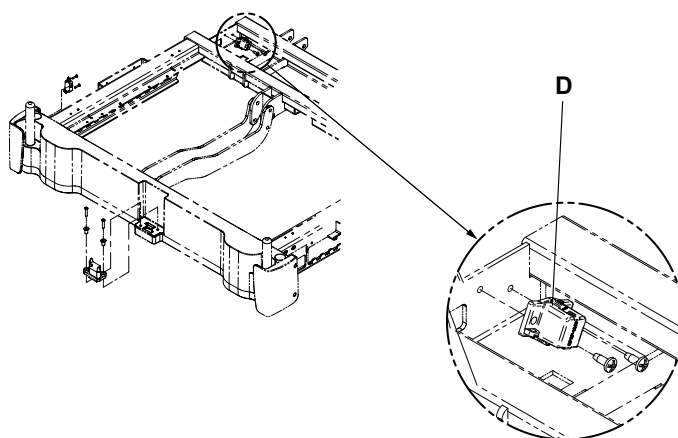

Figure 73 – Angle sensor
5. Using a #2 Phillips short screwdriver, remove the two screws that secure the angle sensor (D) to the foot frame (Figure 73). Save the screws.